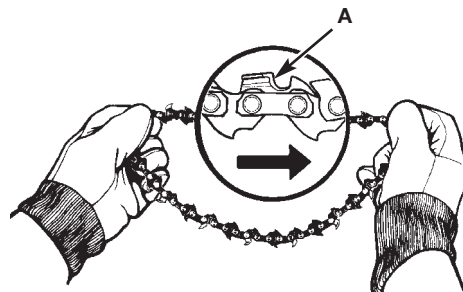

Fig. 26
1. Spread chain out in a loop with cutting edges (A) pointing CLOCKWISE around loop (Fig. 26).